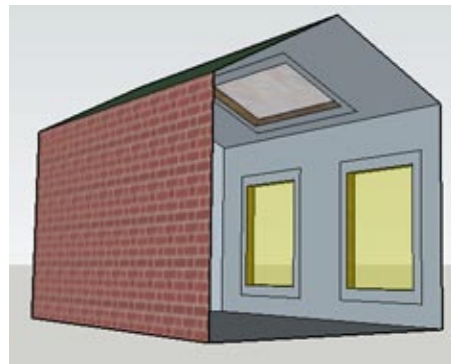

Figure 8-42
7. Orbit again to see the back faces of the windows. They are translucent on this side as well (Figure 8-42). This is because these faces originally had the default color. If you had already painted the back faces with a material or if you paint these faces now, the back faces will get that new material, whether translucent or not. The front faces will still be translucent.